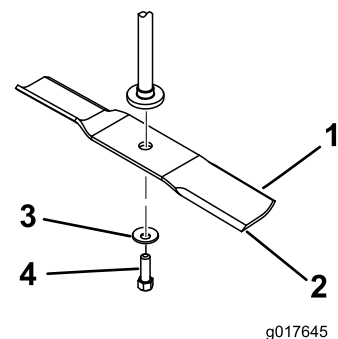

Figure 53
Hold the blade end using a rag or thickly-padded glove. Remove the blade bolt, curved washer, and blade from the spindle shaft (Figure 53).
1. Install the blade onto the spindle shaft (Figure 53).
2. Install the curved washer (cupped side toward the blade) and the blade bolt (Figure 53).